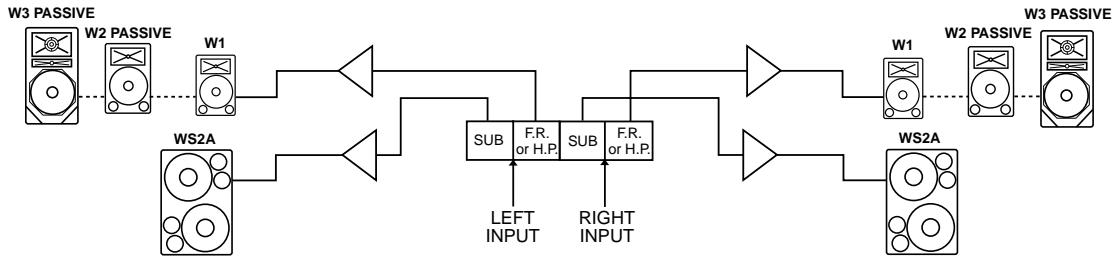

Fig 8. W1, W2 or W3 Passive operation with Sub Bass using WX3ASF Card
The WX3ASF may also be used to drive a sub-bass system to augment the W1, W2 and passive W3 systems (see Fig 8). The WX3A is normally operated in 100Hz high-pass/crossover Mode (2) (see Section 6.3) for this configuration, although it may be operated in Overlap Mode (3) if overlap is required for flown systems. Full-range Mode (1) should only be used with care, in special cases where distant flown systems are required to run full-range. Some cancellation may occur if the W1, W2 and W3 are located in close proximity to the sub-bass enclosure. However, this cancellation may simply be resolved by reversing the phase of the W1, W2 or W3.